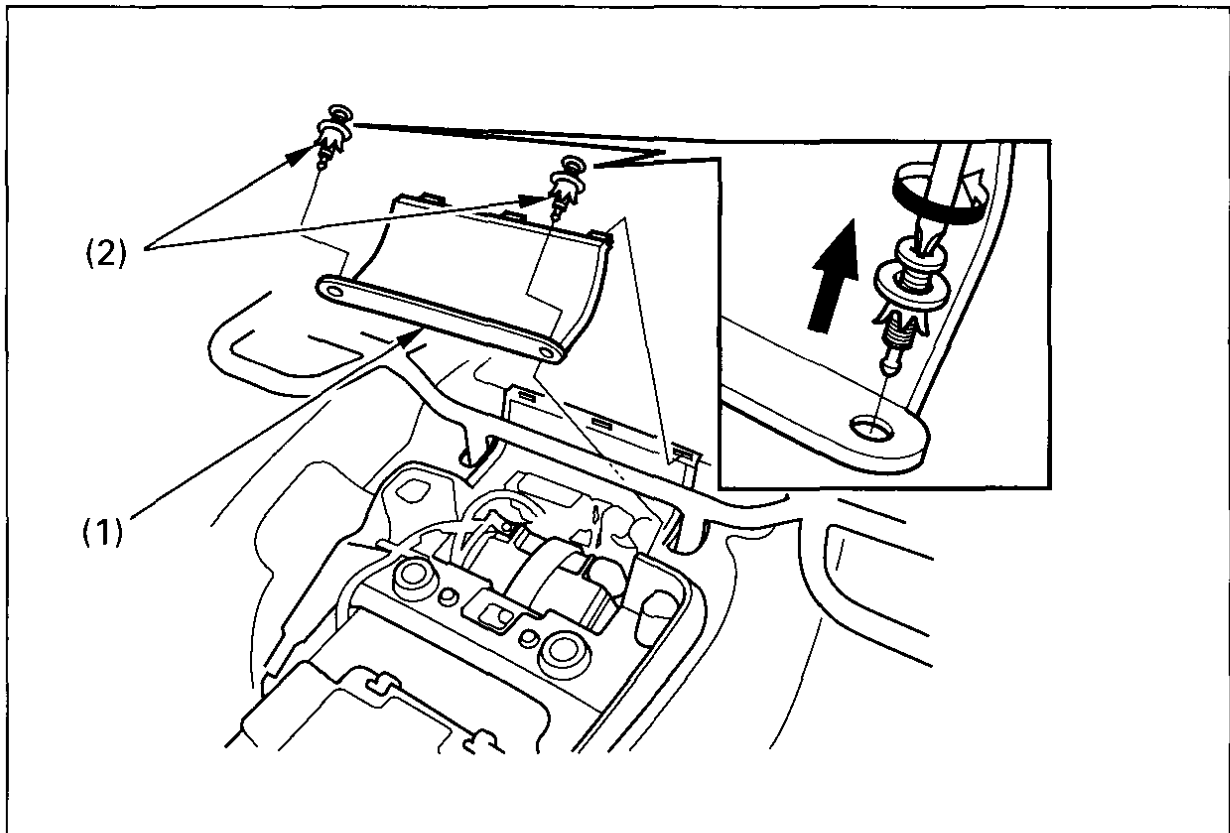

Fig.4-18 (1) Rear fender lid
3. To remove the rear fender lid (1), remove the clips (2) (Fig. 4-18).